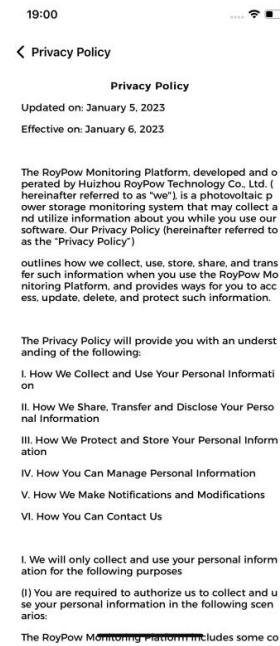

Fig. 5.3.3 Privacy Policy
2. Users can access the "**Privacy Policy**" by clicking on "**About**" and then selecting "Privacy Policy" at the bottom. This provides information about the specific permissions and purposes for which this software obtains permissions during installation and use. as shown in Fig. 5.3.3.